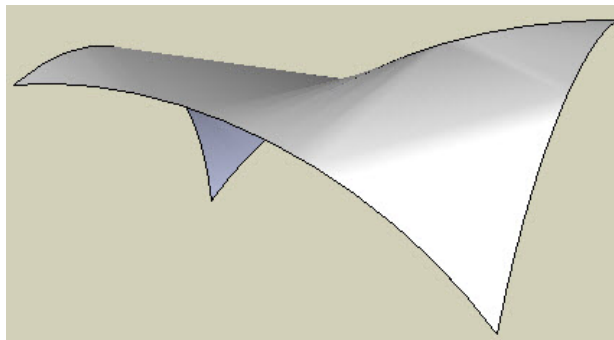

Figure 108. A contoured face is applied between the arcs
- A single contoured face will be applied to the area surrounded by the 4 arcs as shown in Figure 108.